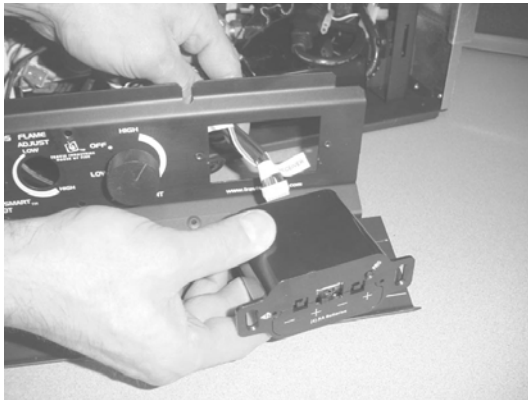
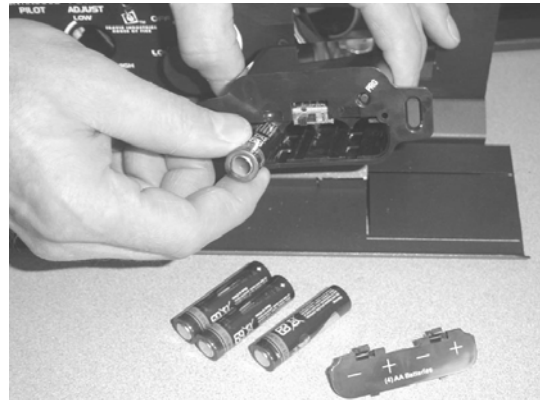

Figure 27
Figure 28
- 21 Pull the “RECEIVER” connector through the control panel and attach to the receiver (see Figure 27). Place batteries into the receiver and transmitter (see Figure 28).